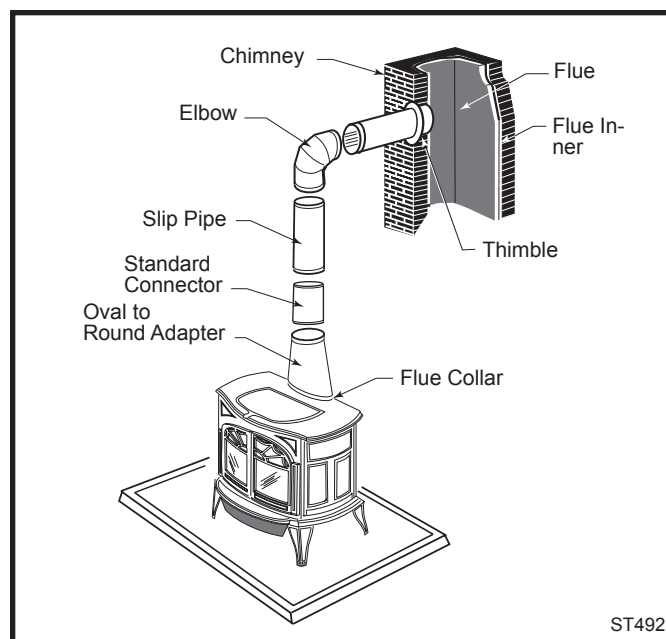

Fig. 5 An exploded view of the chimney connection in a free-standing masonry installation.
- Fasten each joint between sections of chimney connector, including telescoping joints, with at least three (3) sheet metal screws. The pre-drilled holes in the top of each section of chimney connector serve as guides when you drill 1/8" (3 mm) holes in the bottom of the next section.
- Fasten the chimney connector to the chimney. Instructions for various installations follow. Figure 5 illustrates the general layout of chimney connector parts.